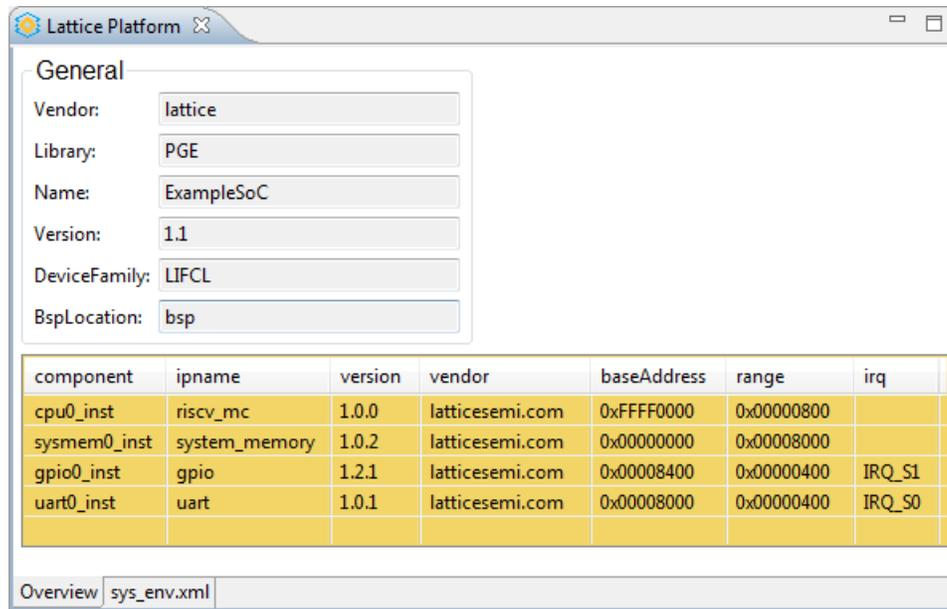

Figure 3.25. Lattice System Platform
- Lattice System Platform: An overview of the processor platform can be displayed (Figure 3.25).